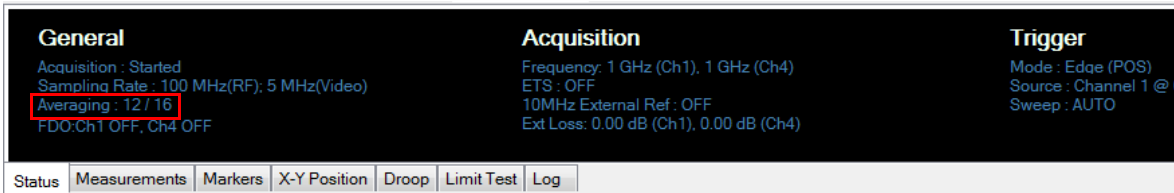

Figure 2-35 Waveform averaging status in the status view
- 6 The waveform averaging status is displayed in the Status view as shown in Figure 2-35.